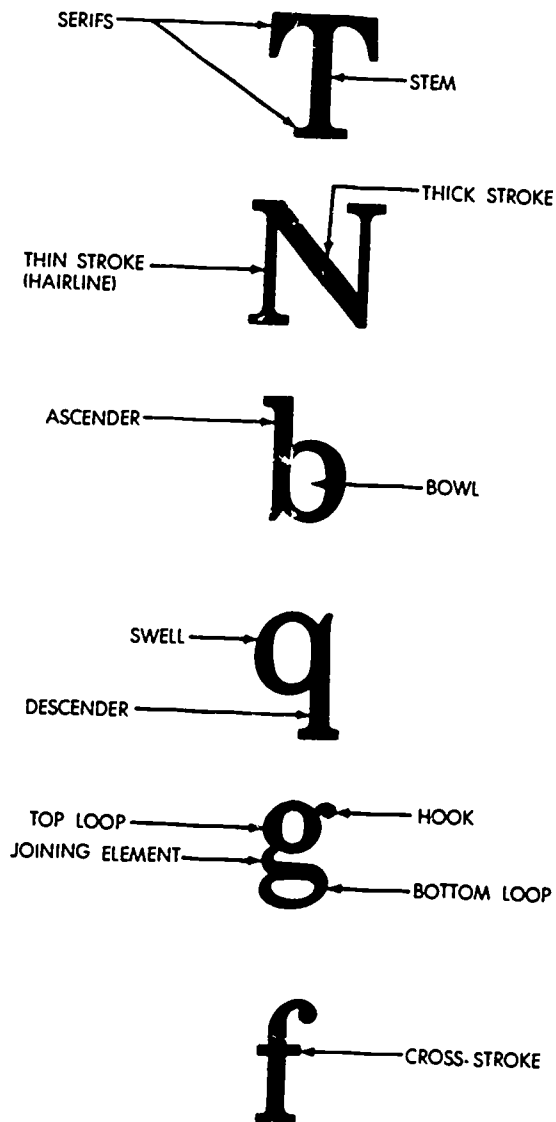

Figure 3-1. Letter nomenclature.
**Letter Nomenclature.** Before we go further into letter fundamentals, we should go over the names of the various parts of letters. This will give us a common language to use in discussing lettering principles. The different parts of letters are designated in figure 3-1. You are probably familiar with some of these names, but let us go over them to make sure that you know all of them.
The next letter of figure 3-1 shows two names that are often used to describe parts of letters. When a broad nibbed pen is used to construct letters, it is usually held so that the nib is parallel with the line of lettering. Therefore, when a downward stroke is made, the part of the letter produced is a
The next two letters in figure 3-1 are quite similar, so we can discuss their nomenclature together. The stem of a lowercase letter that extends above the body of the letter is called the *ascender*, and the portion of a lower case letter that extends below the body is called the *descender*. The combination of the ascender or descender and the body of a letter is the same height as a capital letter. The white area inside of a letter made with a curved stroke is called the *bowl* or the *counter* of the letter. The curved portion of such letters is called the *swell*. The swell is often made slightly wider than the stem because it is thick only at one point, and appears thinner than the stem when made the same thickness. This is apparent in figure 3-1 where the swell is the same thickness as the stem.
Now let us look at the last two letters in figure 3-1. As you can see, the letter "g" has many additional parts with different names. However, the names are self-explanatory and need no further explanation. The final part of letters shown in the figure is the cross-stroke. This is the thin horizontal stroke of the lowercase letters f and t and capital letters A and T. Sometimes it is used to refer to the horizontal strokes of the capital letters E and F.